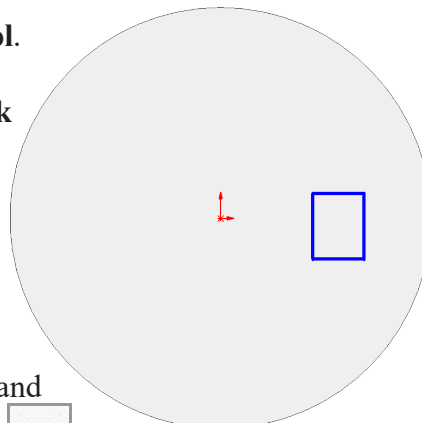

Fig. 20
Step 5. Sketch **corner rectangle to right of Origin** , **Fig. 20**.